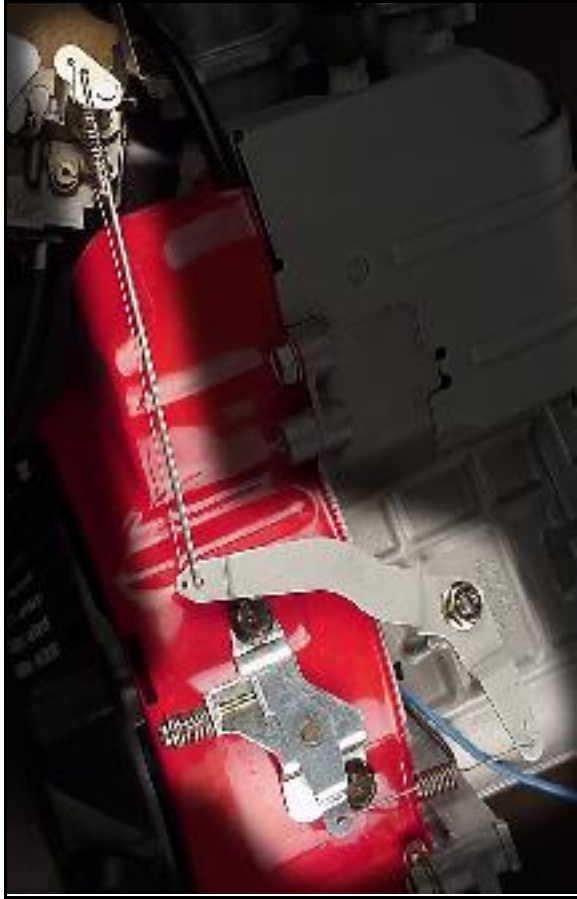

Fig. 12
14. Refer to Fig. 12 and install components as shown.